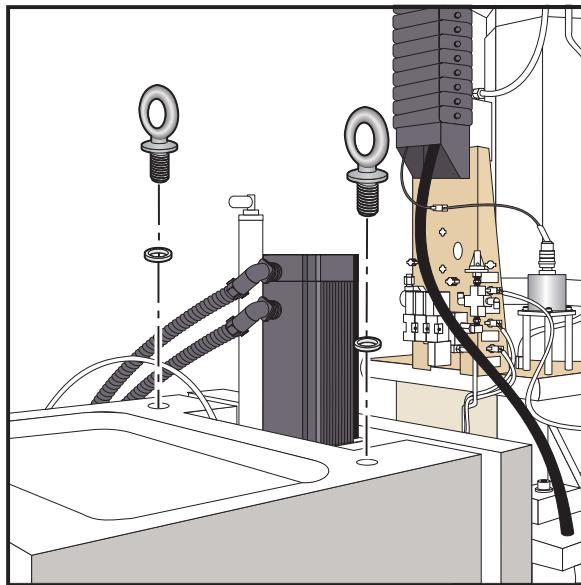

Fig. 1.9-4 VF-3/VF-4 eyebolt locations.
4. Install (2) 3/4-10 x 1 1/4" eyebolts and (2) 3/4" hard washers to the column casting as shown in Figure 1.9-4. Tighten securely.